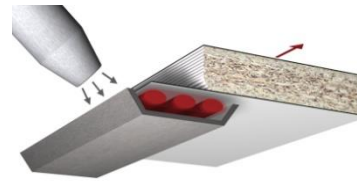

Figure 16
STEP 4: In the third section the special PVAc adhesive that has been applied is aerated, the water contained in the adhesive evaporates, thus activating it for the shaping that is to follow. At the same time the laminate is heated up by an infrared heater to prepare it for the deformation process. This is sometimes referred to as "plasticising" (see Figure 16).